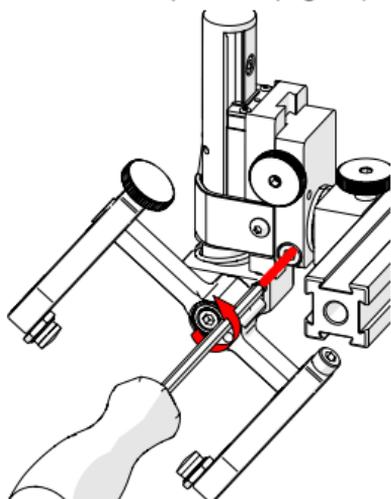

Fig. 77 - Loosen 3 mm screw
2. Using the supplied 3 mm hex driver (Fig. 24), loosen the longitudinal adjustment screw (Fig. 77).